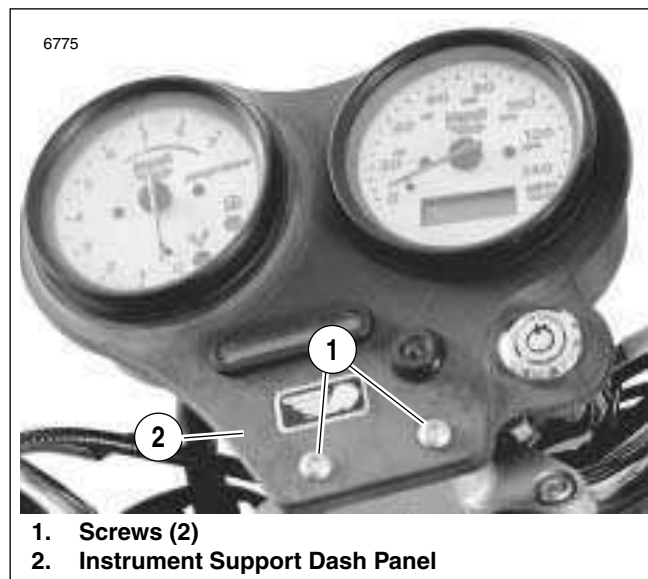
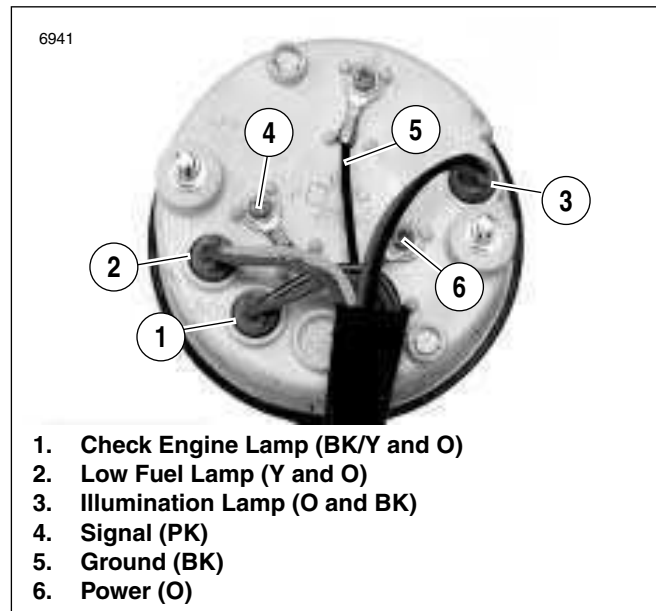

Figure 7-60. Front Dash Panel
Figure 7-62. Tachometer Wiring
2. See Figure 7-60. Detach instrument support dash panel (2) by removing two screws (1) holding panel to instrument support clamp. Pull dash panel upward, but do not damage wiring.
5. See Figure 7-62. Remove wires from tachometer.
- c. See Figure 7-62. Insert lamps (1, 2 and 3) into their appropriate bores.
4. See Figure 7-62. Install tachometer cover (5).
- b. Apply LOCTITE THREADLOCKER 243 (blue) to both nuts (metric) (3).
- c. Fasten cover (5) to tachometer using two nuts (metric) (3) and lockwashers (4).
5. See Figure 7-60. Position dash panel on instrument support clamp.
- a. Attach dash panel using two screws (1) to hold panel to clamp.